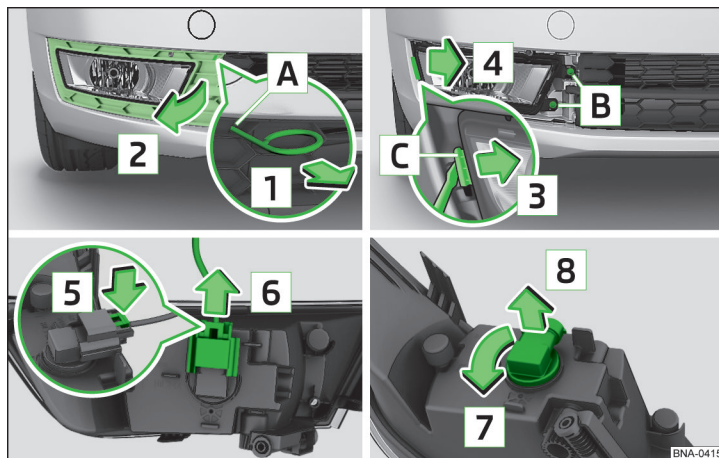

Fig. 114 Remove the number plate light / replace the bulb
- › Insert the clamps for removing the full wheel trims into opening **A** » fig. 114.
- › By pulling the hook in direction of arrow **1** remove the protective grille in the arrow direction **2** » fig. 114.
- Press the latch on the connector in the direction of arrow **5** » fig. 114.
- Replace the fog light by inserting it in the opposite direction of the arrow **4** and tighten. » fig. 114.